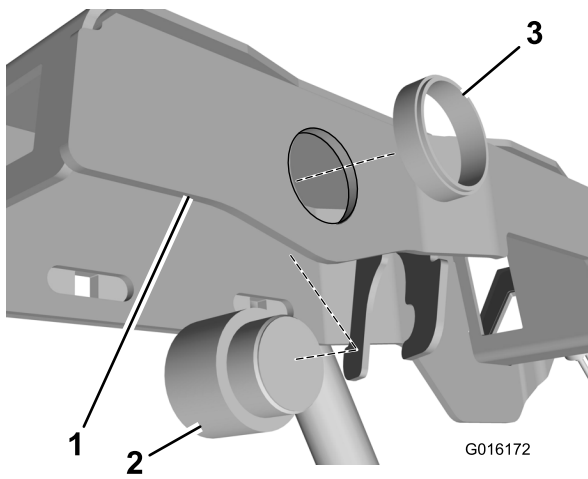

Figure 2
6. Install the audio alarm into the console-arm frame (Figure 2).